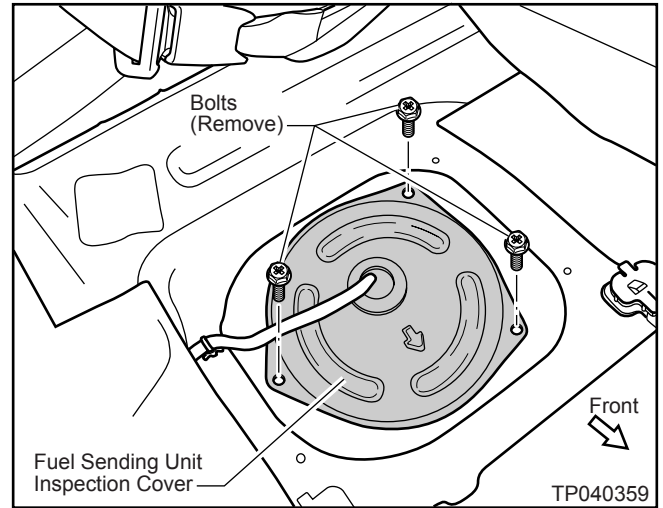

Figure 25
3. Remove three Bolts and lift the Fuel Sending Unit Inspection Cover UP (see Figure 25).